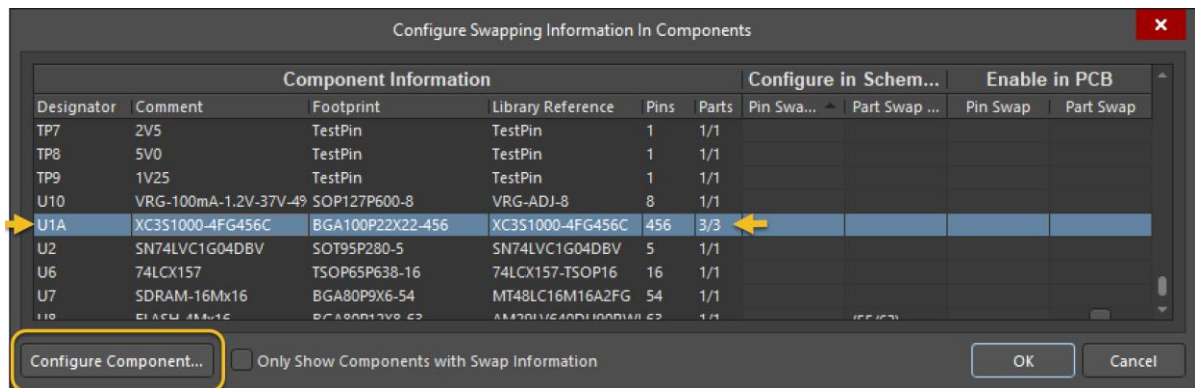

Figure 4. Configure Swapping Information In Components
10. Click **Tools » Pin/Part Swapping » Configure** to open the *Configure Swapping Information In Components* dialog. Locate and select the FPGA (U1A) in the list and click the **Configure Component** button (lower left) as shown in Figure 4. If the FPGA is not listed, be sure that the **Only Show Components with Swap Information** checkbox is unchecked.